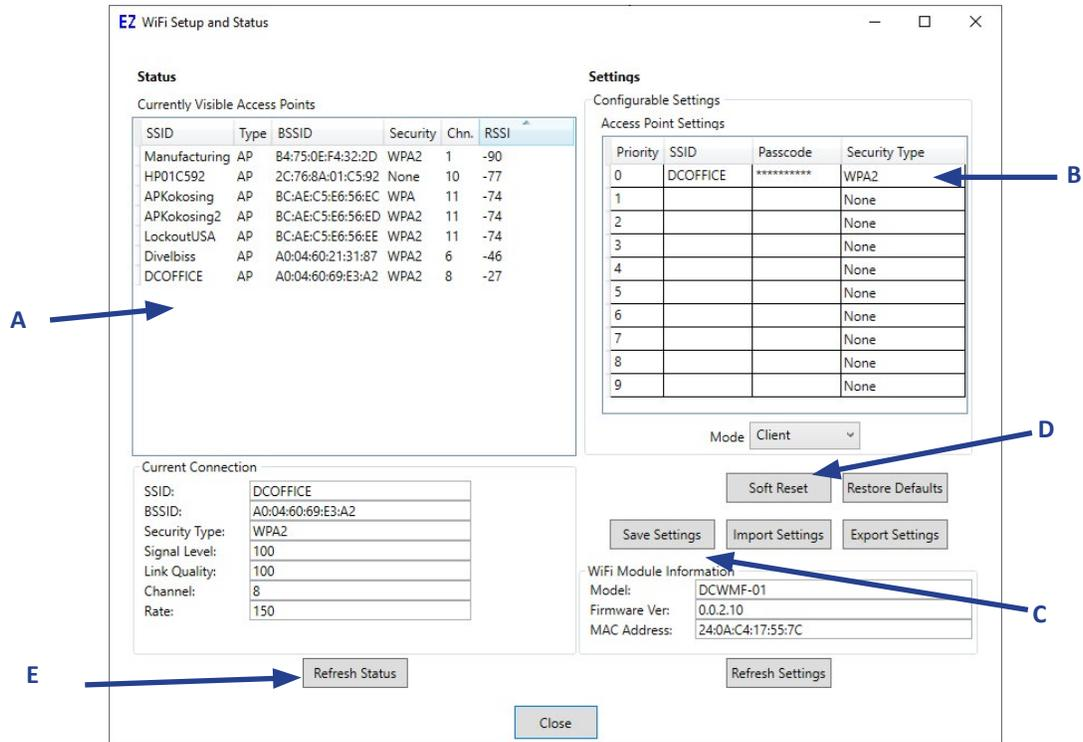

Figure 2-41 - WiFi Setup and Status
5. The *WiFi Setup and Status* window will open. An intermediate temporary dialog may be seen while the Wi-Fi module is accessed and the current Wi-Fi setup read. Refer to Figure 2-41.
6. Referring to Figure 2-41, the *Currently Visible Access Points* (item A) pane shows all the networks currently in-range for the Wi-Fi to detect. **The network must be in-range to be configured.**
7. In the Access Points Settings, enter the **SSID** and **Passcode** in their respective places (item B). It will be necessary to double-click to enter the values. Refer to Figure 2-41.
Multiple Wi-Fi networks may be saved by adding them to list shown in Figure 2-41. Each setting is stored in the on-board Wi-Fi module and is maintained during a power loss. The priority of Wi-Fi network to connect to is based on the priority number in the list.